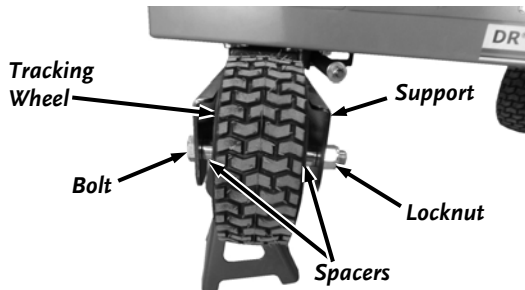

Figure 31
1. Support the Trimmer with a Jack Stand to lift the Tracking Wheel off the Ground (**Figure 31**).